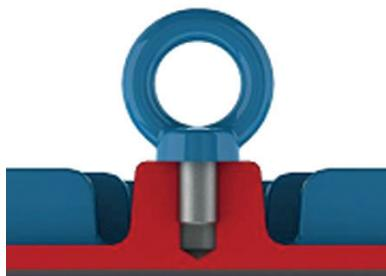
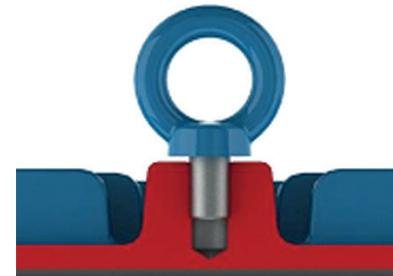

Figure 4.1 - Correct tightening of the eyebolt
Figure 4.2 - Incorrect tightening of the eyebolt
Before lifting the motor ensure that all eyebolts are tightened properly and the eyebolt shoulders are in contact with the base to be lifted, as shown in Figure 4.1. Figure 4.2 shows an incorrect tightening of the eyebolt.
1. Ensure that the eyebolts are tightened properly, as shown in Figure 4.1;
1. Ensure that all eyebolts are tightened properly, as shown in Figure 4.1;